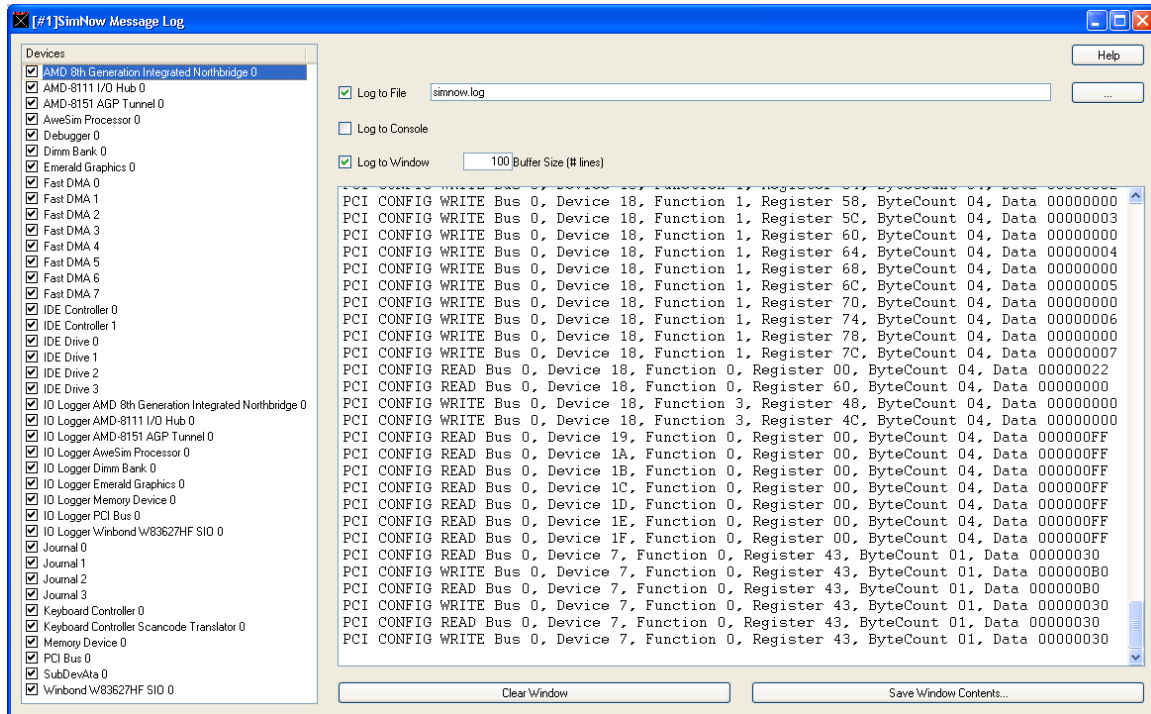

Figure 14-3: Message Log Window
2. Select “View→Log Window” from the Main Window Menu. This will bring up a Message Log dialog box similar to the one shown in Figure 14-3.